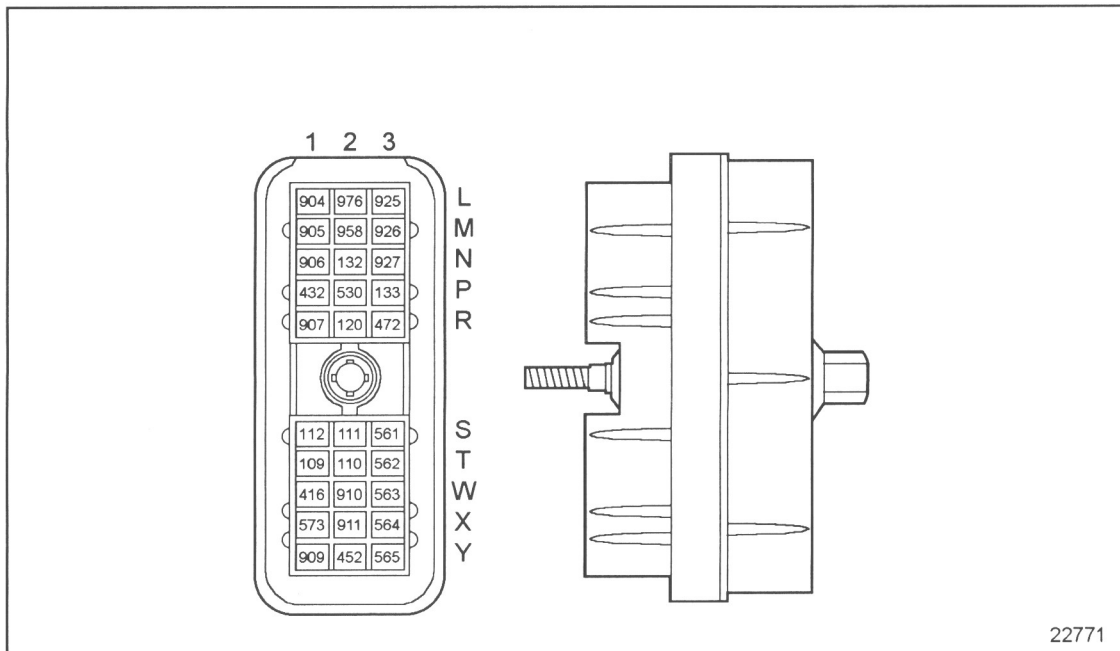

Figure 23-5 ECM Engine Harness Connector
3. Measure resistance between sockets R3 and Y2 on the engine harness connector. See Figure 23-5.